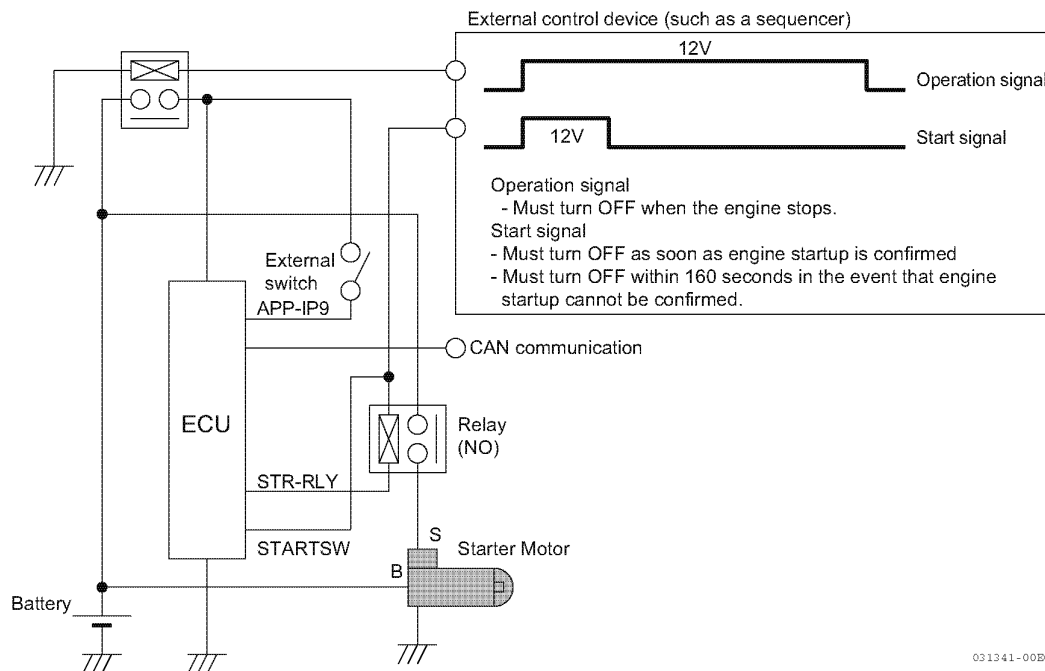

Figure 14-31 Wiring diagram of a remote (automatic) start/stop system
You can also use functions (1) and (2) described above to implement a remote (automatic) start/stop system. Details shown in **Figure 14-31**. This example uses the Engine Start Recognition: STARTSW signal from an external control device instead of the key switch.